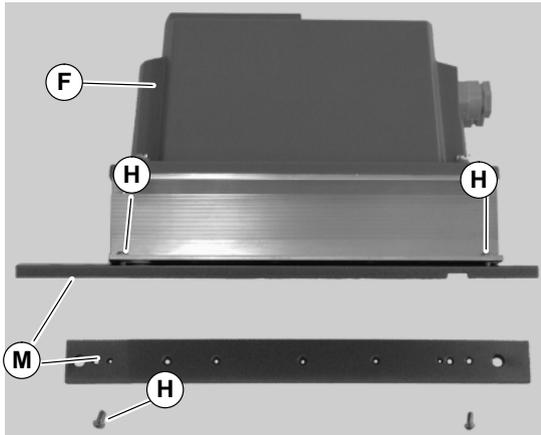

Figure 7
2. Attach mounting bars (M of Figure 7) to controller (F) with screws (H).